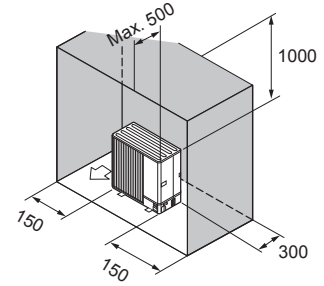

Fig. 1-12
- ⑥ Obstacles at rear, sides, and above only (Fig. 1-12)